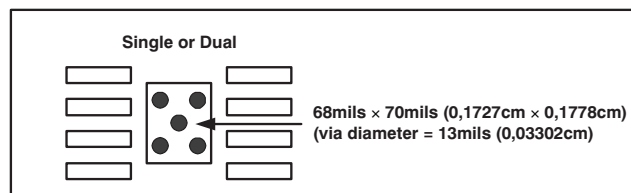

Figure 14. PowerPAD PCB Etch and Via Pattern
2. Prepare the PCB with a top-side etch pattern, as shown in Figure 14. There should be etch for the leads as well as etch for the thermal pad.